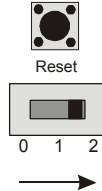

Figure 4-7
- ✓ Supply power to the servo header by adjusting the 3-position switch as shown in Figure 4-7. Your servo may move a bit when you connect the power.